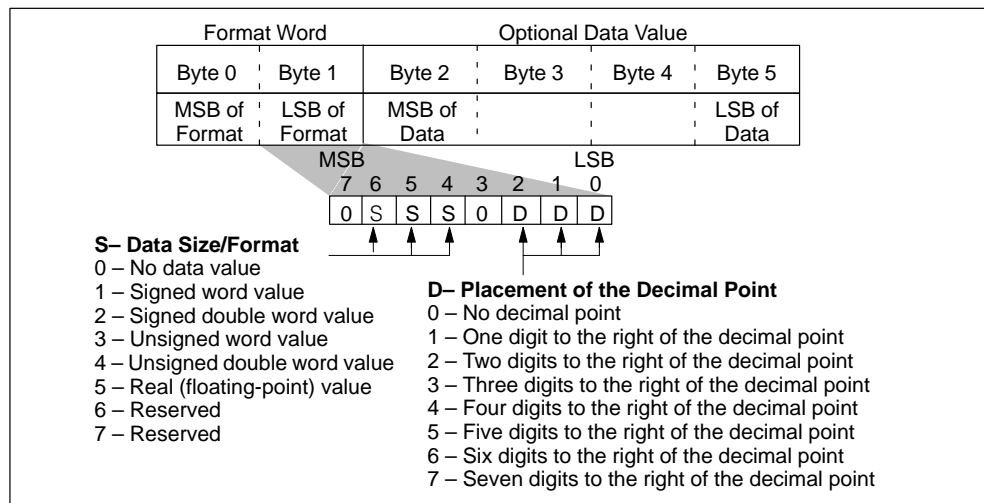

Figure D-18 Bit Values of Byte 1 of the Format Word
The least significant byte of the format word is used to specify the size, the format, and the position of the decimal point in a displayed value. The selection of signed or unsigned affects the editing range of a value. Unsigned values are restricted to positive numbers. Signed values can be either positive or negative. Figure D-18 shows the placement of the data size/format and decimal point bits in byte 1 of the format word.
- Real (floating point) numbers are displayed with the number of decimal places that you specified (see Figure D-18). The value is rounded to the designated level of precision. For example, if one decimal place were specified for the value 12.567, the TD 200 would display "12.6".
For real (floating point) numbers, the TD 200 uses up to 20 digits to represent the number. (This includes the number of decimal places that were specified in the format word. See Figure D-18.) If a number cannot be displayed within the number of digits available, the TD 200 displays "eeeeee" for that value.